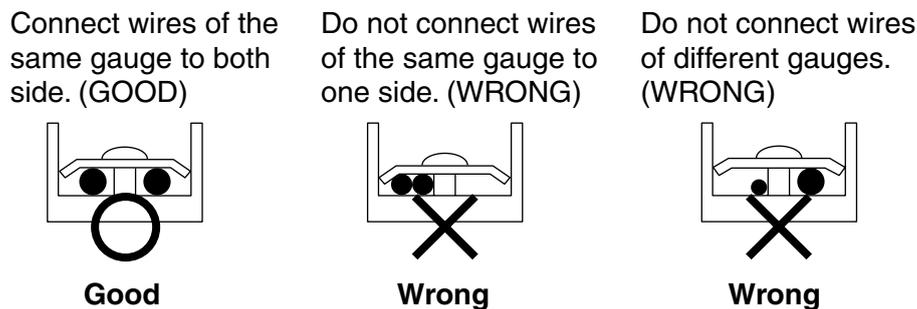

Fig. 23
- Do not connect wires of different gauge to the same power supply terminal. (Looseness in the connection may cause overheating.) **(Refer to Fig. 23)**